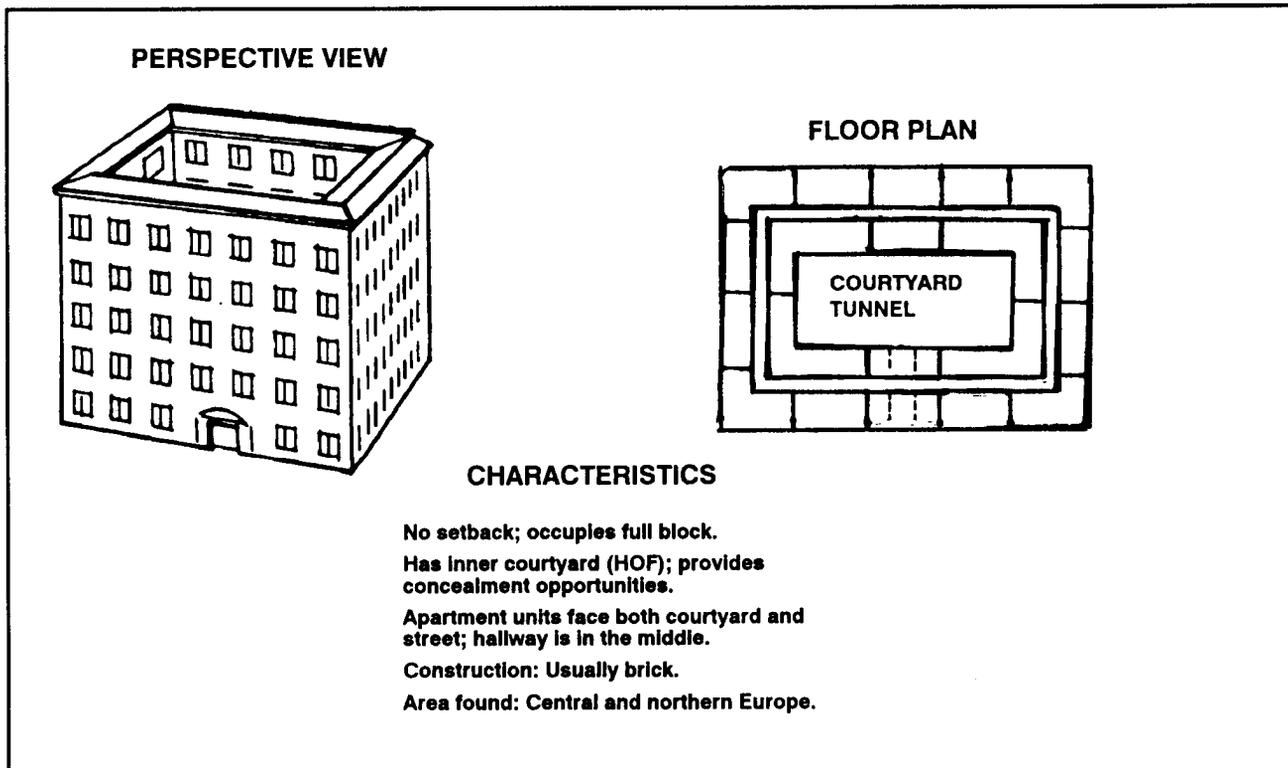

Figure H-19. Hof-style apartment building.
a. Another common type of building structure in cities with European influences is called the Hof-style apartment building (Figure H-19).